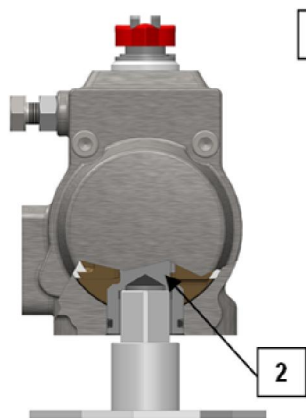
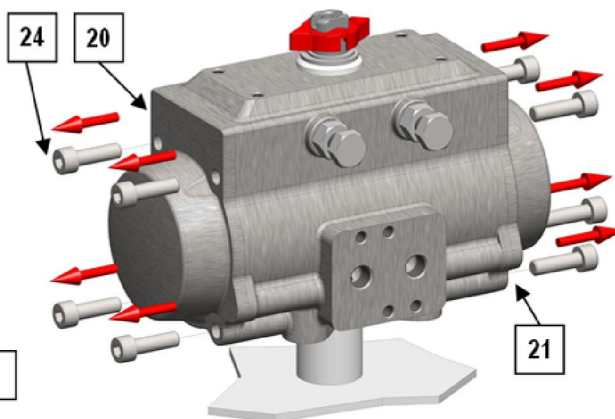

Fig.6
Fig.7
4. Place the actuator on a support with a square of the same size of the pinion (2) so as to easily execute the below listed operation (see Fig. 6);
5. Before disassembling the actuator **check** from the label on the body whether it is a double acting (DA) or spring return (SR) type;
6. For **DOUBLE ACTING ACTUATOR** : Unscrew in crossed sequence the screws (24) for fastening the end caps (20-21), see Fig. 7 ;
For **SPRING RETURN ACTUATOR** : Unscrew **GRADUALLY** in crossed sequence the screws (24) for fastening the end caps (20-21), s. fig. 7 ;